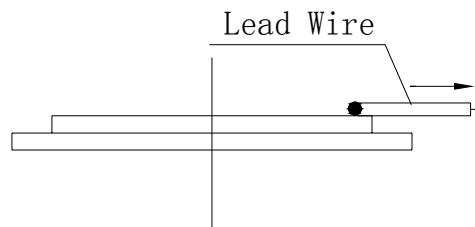

Fig.2 Direction of Lead Wire
a) Wire to be soldered on ceramic at the edge. It should withstand minimum 1.5 kg force applied in 180°.The wire should not come out before this .The ceramic can be either glued on a surface of can be held in hand.(Fig.2)